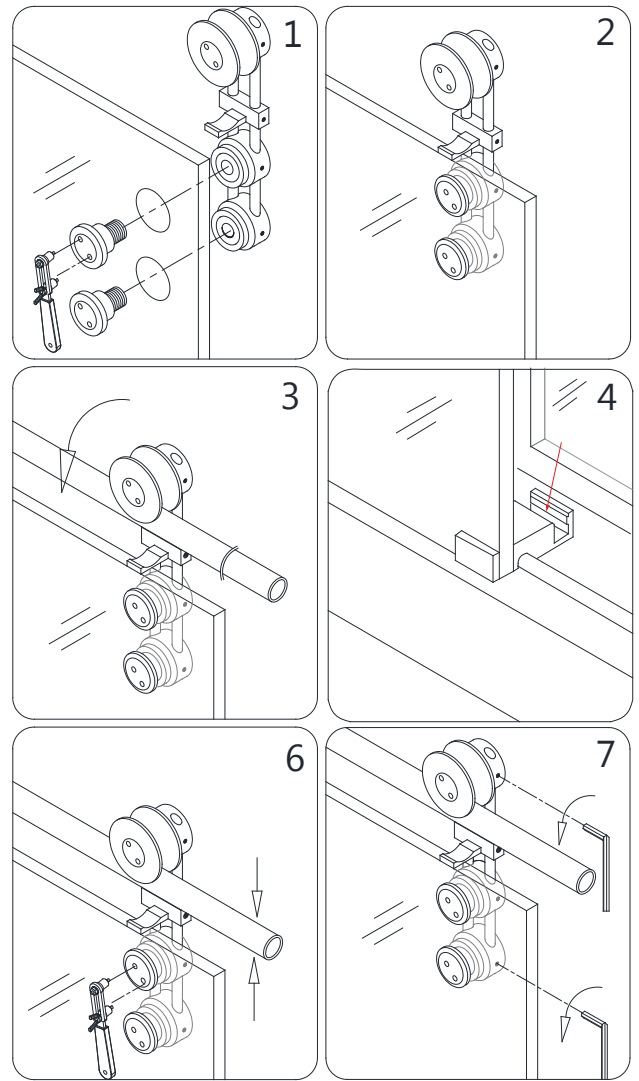
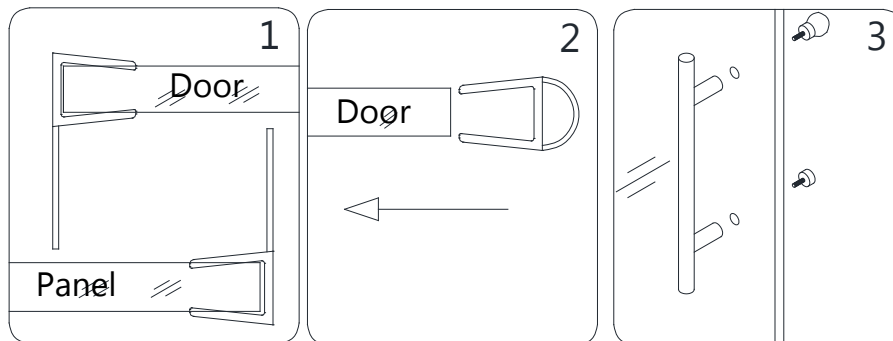
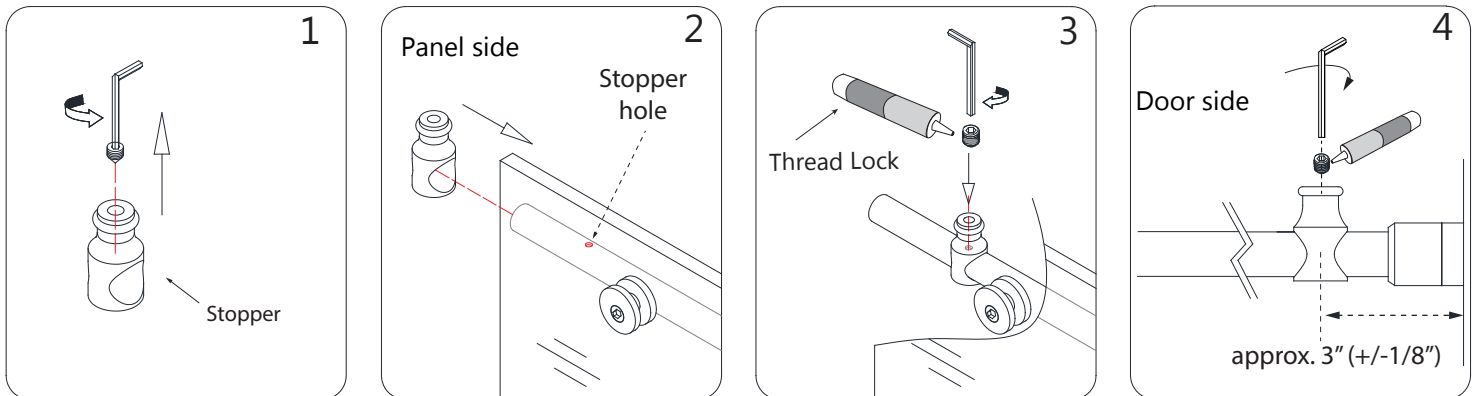

Fig. 18
Fig. 19
Fig. 22b
(Fig. 18 and Fig. 19)
16. Press the **Anti-Water Strip (#14)** on the vertical edges of the **Stationary Glass (#02)** and the **Door Glass (#05)**. Press the **Bumper Seal Strip (#13)** onto the vertical edge of the **Door Glass (#05)**. Attach the **Handle (#06)** to the **Door Glass (#05)**. **(Fig. 19)**
Adjust the **Roller Guards (Fig. 18)** on both **Roller Assemblies (#04)** to within 1/16" of the **Upper Guide Rail (#03)** to ensure that the **Door Glass (#05)** is secure. **(Fig. 22a and Fig. 22b)**
(Fig. 22b)